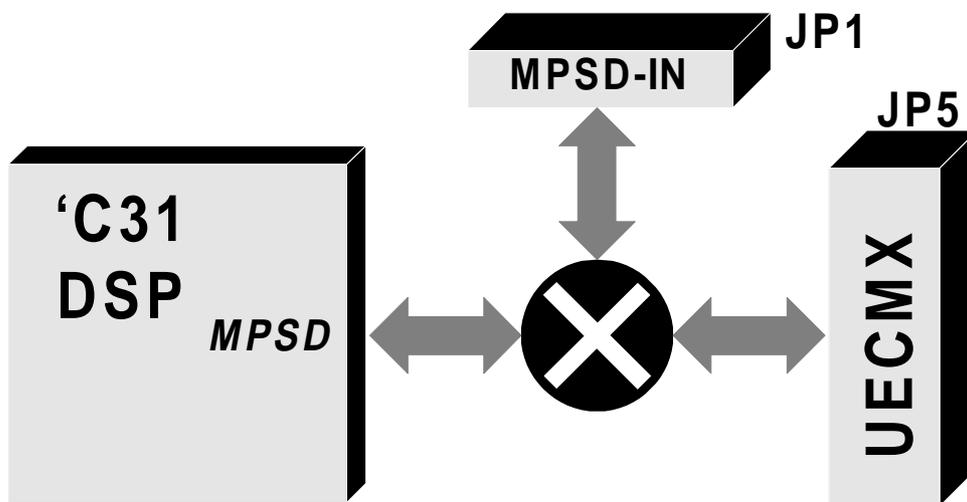

Fig. 2-15. On-board MPSD emulation path of *TORNADO-31/31Z*.
*TORNADO-31/31Z* on-board MPSD path is presented at figure 2-15 and comprises of TMS320C31 MPSD emulator port, emulation multiplexer (E-MUX), MPSD-IN connector (JP1) and connector site (JP5) for *UECMX* universal emulation controller daughter-card module.